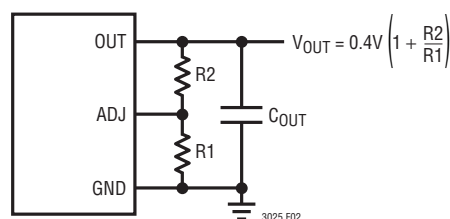

Figure 2. Programming the LTC3025
**ADJ (Pin 5):** Adjust Input. This is the input to the error amplifier. The ADJ pin reference voltage is 0.4V referenced to ground. The output voltage range is 0.4V to 3.6V and is typically set by connecting ADJ to a resistor divider from OUT to GND. See Figure 2.
The output voltage is set by the ratio of two external resistors as shown in Figure 2. The device servos the output to maintain the ADJ pin voltage at 0.4V (referenced to ground). Thus the current in R1 is equal to  $0.4\text{V}/R1$ . For good transient response, stability, and accuracy, the current in R1 should be at least 8 $\mu\text{A}$ , thus the value of R1 should be no greater than 50k. The current in R2 is the current in R1 plus the ADJ pin bias current. Since the ADJ pin bias current is typically <10nA, it can be ignored in the output voltage calculation. The output voltage can be calculated using the formula in Figure 2. Note that in shutdown the output is turned off and the divider current will be zero once  $C_{OUT}$  is discharged.